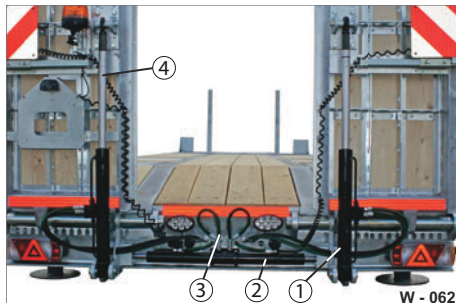

Fig. 30 Checking/maintenance of cylinders
- Check the cylinders (Fig. 30/1,2) for leaks (oil loss) and tight fit.
- Check the hoses (Fig. 30/3) for crack formations/deformation.